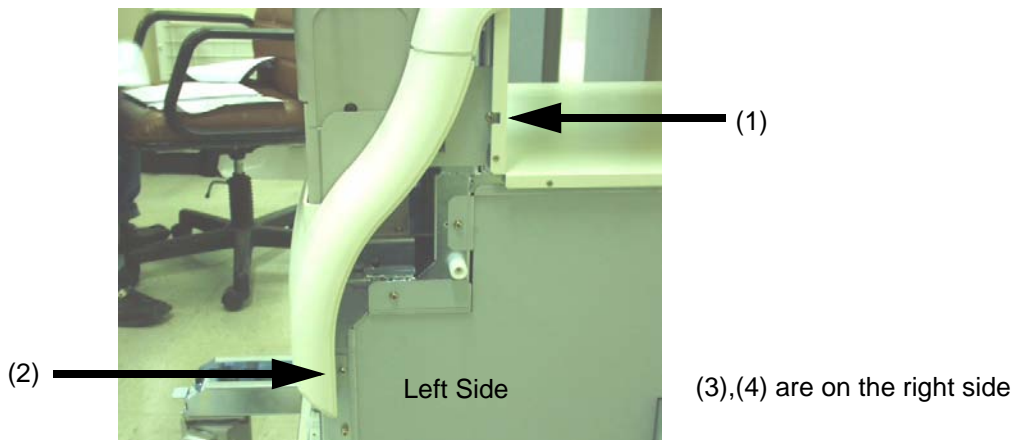

Figure 8-51 Unscrew 2 screws on the left side
- 4.) Unscrew four screws (1-4). Refer to Figure 8-51.